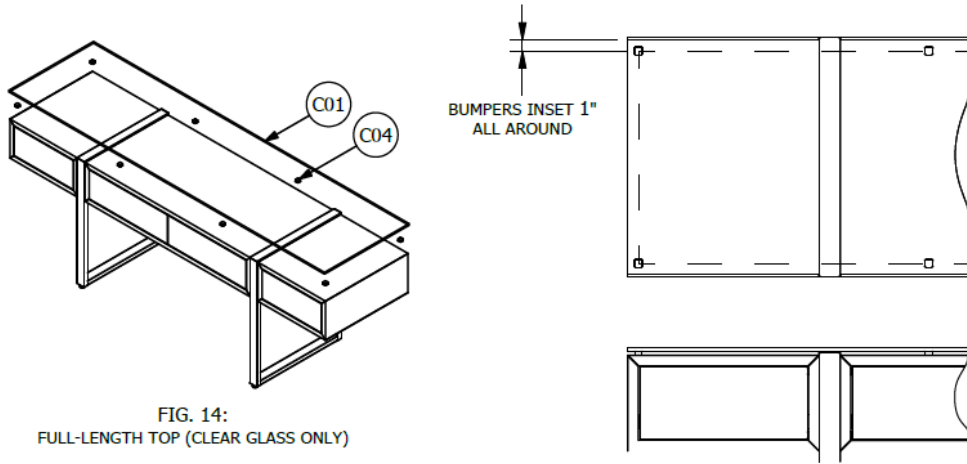

FIG. 14:
1. Peel and stick Bumpers (C04), placing one in each corner of the credenza inset approximately 1" to the center of the Bumper. Then (Spaced equally) stick the remaining Bumpers along the length of the Credenza. See Figure 14.
2. Place Clear Glass Top (C01) on Bumpers, flush at ends and flush to Legs. See Figure 14.